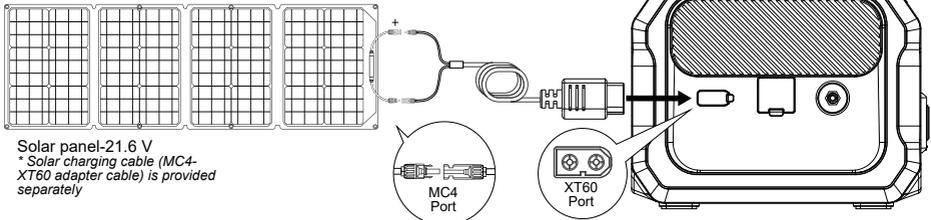

Figure 1
- As shown in Figure 1, connect a **single solar panel** (parallel connections are not supported) to the **MC4-to-XT60 solar charging cable** using the MC4 connector.